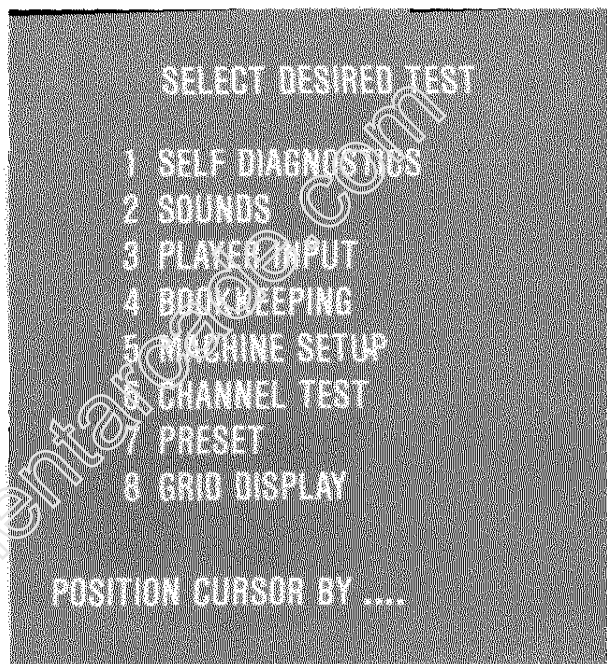

Figure 6-1 Self-Test - Menu
The Self-Test mode has eight (8) major categories as illustrated by Figure 6-1.